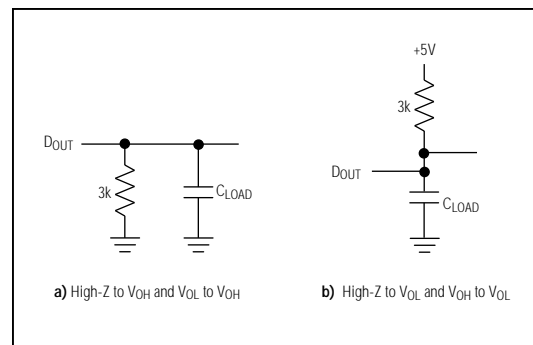

Figure 2. Load Circuits for Enable Time
| $\overline{RD}$ Low to Output Data Valid           | $t_{DO}$   | Figure 2, $C_L = 100pF$ (Note 12) |     |     | 120 | ns    |
| HBEN High or HBEN Low to Output Valid              | $t_{DO1}$  | Figure 2, $C_L = 100pF$ (Note 12) |     |     | 120 | ns    |
**Note 12:**  $t_{DO}$  and  $t_{DO1}$  are measured with the load circuits of Figure 2 and defined as the time required for an output to cross 0.8V or 2.4V.